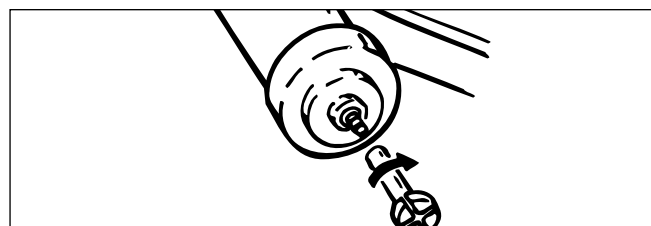

FIGURE 2-14, Attachment of Sensing Tip
10. Screw Sensing Tip or Sensing Unit on to stud on Probe Body (see Figure 2-14). If required, use Probe Extension to reach into counterbore in workpiece or reach past fixturing.